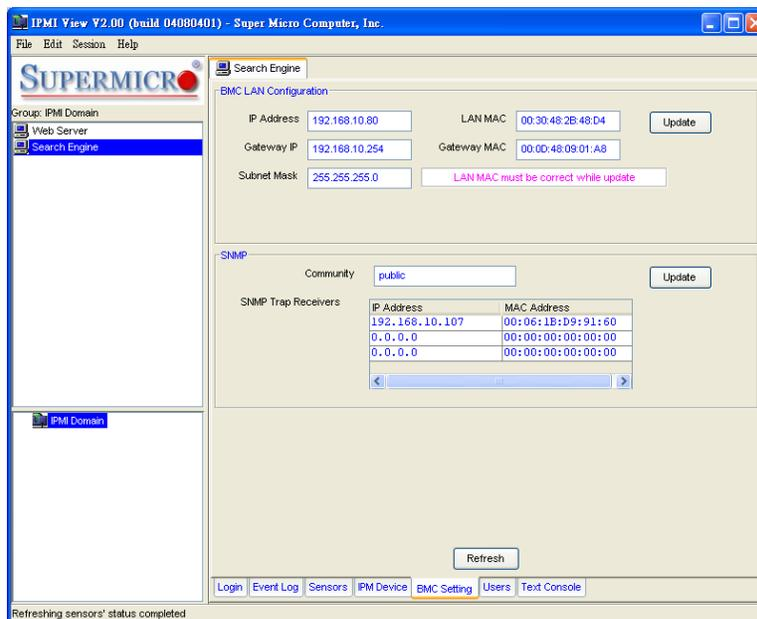

Figure 9: BMC Setting
- d) Click on the BMC Setting tab to bring up the display shown below.(see the Figure 9) As you can see, you have to fill in the IP Address, LAN MAC, and Gateway IP and MAC information found in step VI-1-c. Be careful to enter the correct value, especially for the LAN MAC. If you enter a wrong LAN MAC, you cannot connect to that system any more. Click on the Update button to the right of the LAN MAC field to save the configuration. Once you have done this configuration, you may connect to this managed system even when it is in a power-off (standby) state.